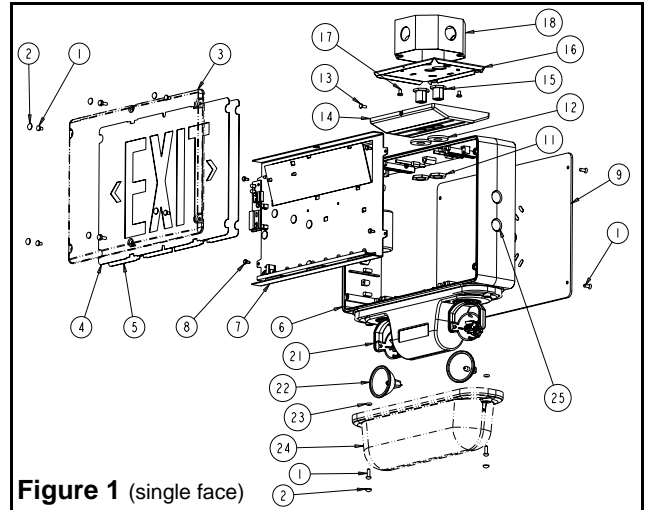
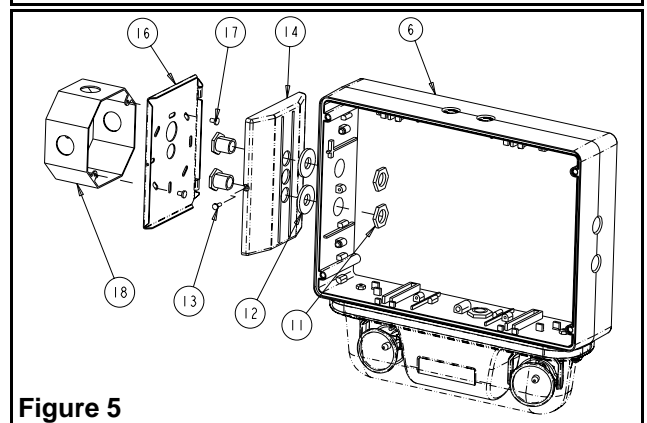

Figure 1 (single face)
Figure 5
- c. Remove proper knockouts in canopy backplate for desired mounting position. For **Nexus** option, install the liquid tight fitting, provided with the unit. For Ceiling mount, use the k'out located on side of the unit. For Side mount, use the k'out located on top of the unit (see fig. 5).
- e. Make sure the securement screw is accessible (see fig.1 & 2 part # 13). Use existing screws in junction box to secure canopy backplate to the junction box.
- h. Determine which holes in the exit frame will be used for mounting (see fig.1,2 & 5). Support frame by two blocks of wood, maximum one inch apart. Strike knockouts with a hammer and screwdriver. Clear holes of burrs to allow proper assembly of nipple/wire assembly. Note: end mount installation weatherproof but not certified Nema 4X (see figure 5).
- i. Secure canopy to the frame using the provided nipple/wire assembly. Make sure the gasket washers are between the canopy and frame, and the nuts inside the exit sign (see fig. 5).
Screw and knock-out covers (see figure 1 part 2 & 25) are available in the hardware kit. These covers can be installed on screws and knock-out to avoid any food accumulation. Note: some detergent used in food processing industry can affect durability of Polycarbonate lens (see figure 1 part 3 & 24).